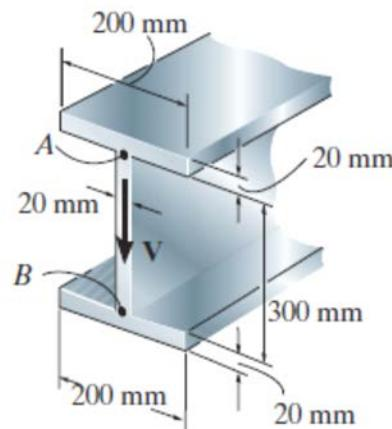

Figure Q3
- Q3. [a] If the wide-flange beam as shown in Figure Q3 is subjected to a shear of $V = 20 \text{ kN}$, determine**
- [b] Several composite parts can be used in order to achieve a greater resistance to loads. Suggest how to assemble the built-up beam for the wide-flange beam in the Figure Q3 and show the difference of the shear strength between both beams.**